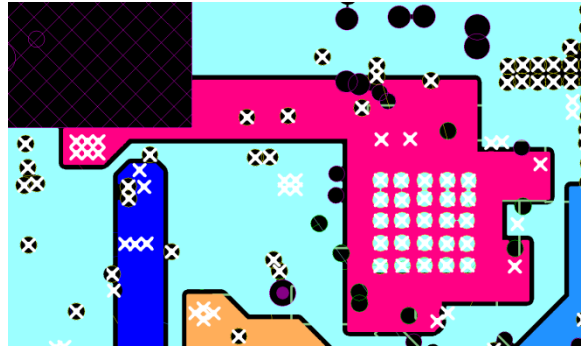

Figure 3.9: 5V Plane (Pink Plane) of Layer 3.
- It is recommended to put the 5V power plane in layer 3 and circle with AFE GND pad consistently, as shown in Figure 3.9.